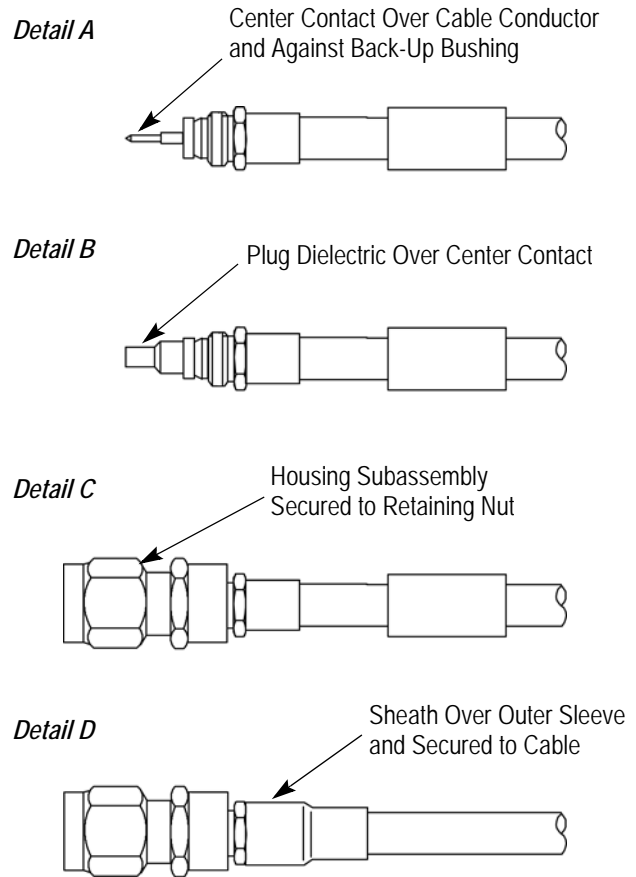

Figure 4
6. Place the center contact in the center contact holder. Heat the center contact with a soldering iron, then carefully push the center contact over the conductor until it rests firmly against the back-up bushing. See Figure 4, Detail A. Remove excess solder and splatter.
7. Slide the plug dielectric over the center contact until it bottoms. See Figure 4, Detail B.
8. Screw the housing subassembly onto the retaining nut, and tighten to a torque between 1.36 and 1.81 N•m [12 and 16 in.-lbs.]. See Figure 4, Detail C.
9. Slide the sheath over the outer sleeve until the ends are aligned. Using a heat gun, apply direct heat to the sheath until the sheath has shrunk and is secured to the cable. Refer to Figure 4, Detail D.